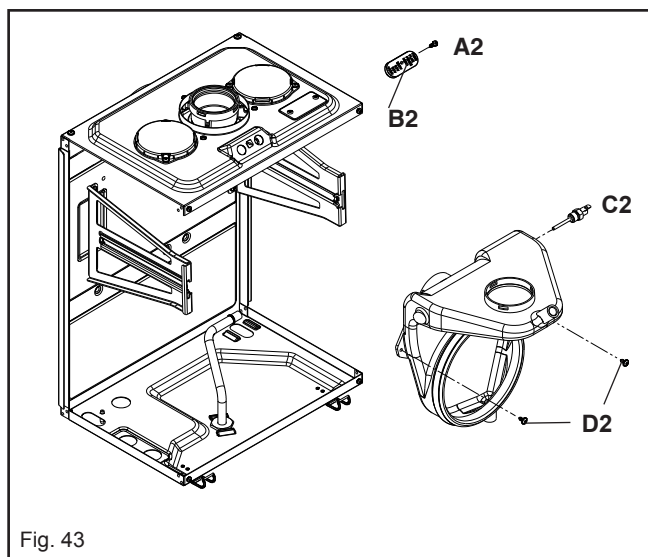

Fig. 43
6.20 FLUE COLLECTOR REMOVAL (fig. 43)